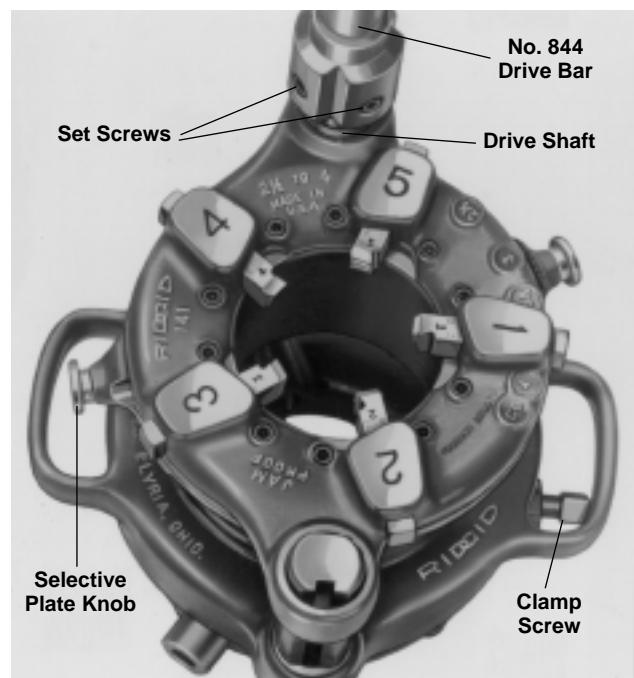

Figure 14 – No. 141 Threader with No. 844 Drive Bar Installed (No. 161 Threader Similar)
2. Place threader on floor or workbench with drive shaft up. Install No. 844 Drive Bar on threader drive shaft and tighten (two) 2 set screws (*Figure 14*).